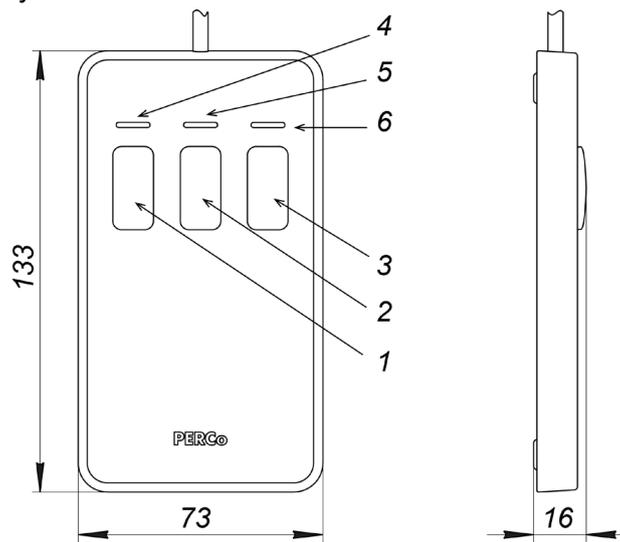

Figure 10. Overall view and dimensions of the RC panel
The RC panel (17) is a small desktop device made of shockproof ABS plastic. The RC panel is designed for speed gate operation in the manual mode, in which the operator sends commands to the equipment. The overall view of the RC panel is shown in Fig. 10.